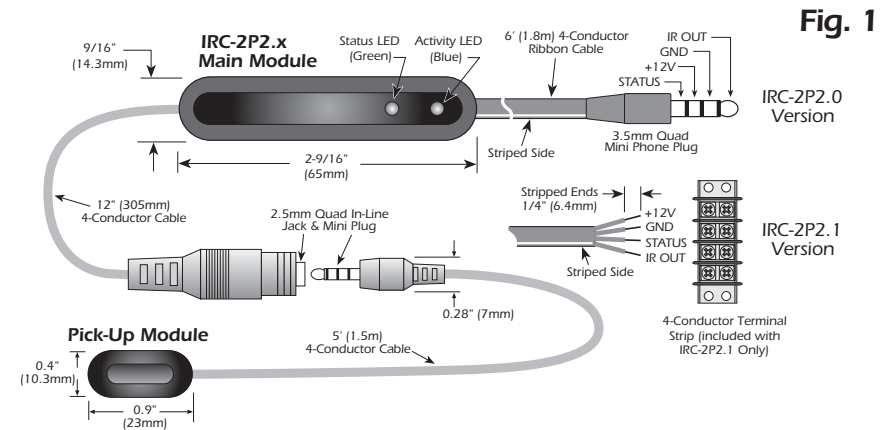

Fig. 1
- The IRC-2P2.0 and IRC-2P2.1 are identical except for output lead termination. The IRC-2P2.0 has a unique 3.5mm quad plug to accommodate STATUS as well as IR, Power and Gnd connections. The IRC-2P2.1 comes with stripped ends plus a 4-conductor terminal strip allowing interface connections to in-wall room-to-room wiring. (refer to Fig.1)